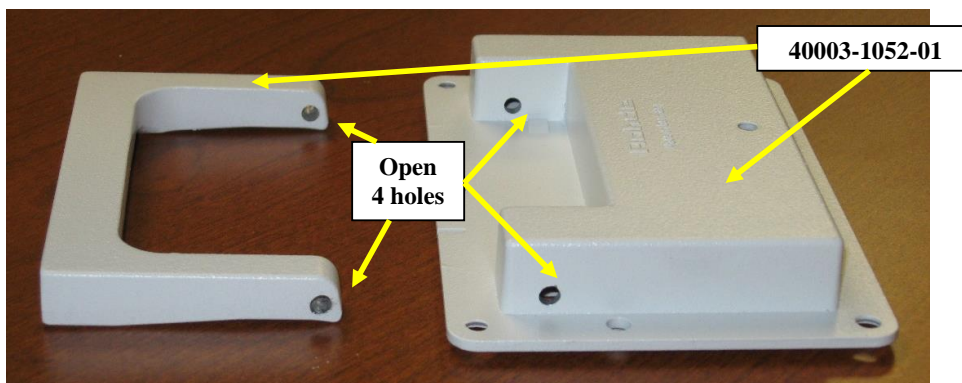

Figure 17
- 11.1. Open up two holes on the Modified Handle (40003-1052-01) and two matching holes on the Handle's plate with a 5/32" drill to remove the paint (see Figure 17).